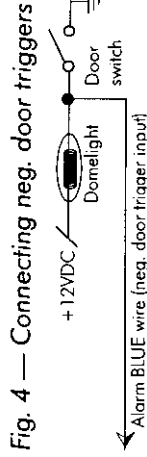

Fig. 4 — Connecting neg. door triggers
- 6. **10-wire connector, BLUE WIRE (negative door trigger input), fig. 4**